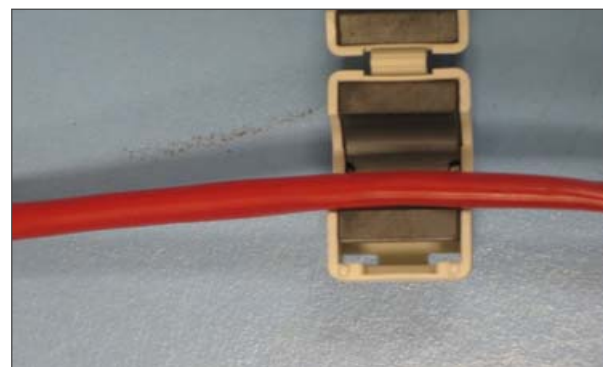
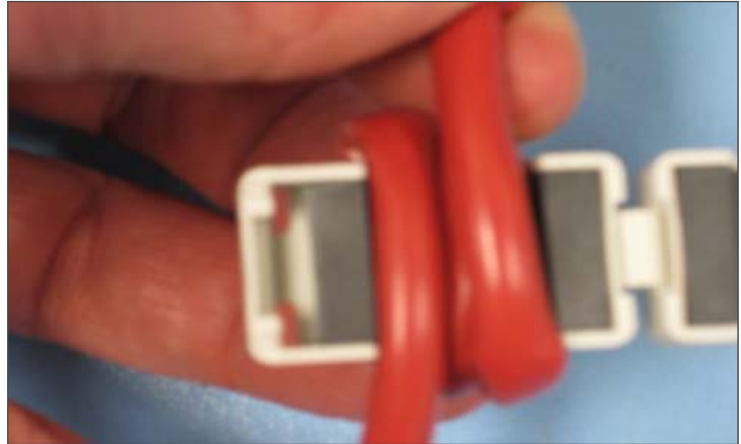

Fig. 9
Fig. 10
- d. Wrap the cable three times around the snap-on ferrite (Fig. 9, and Fig. 10) so that when finished less than one inch of cable protrudes between the ferrite and the plug end (Fig. 11).